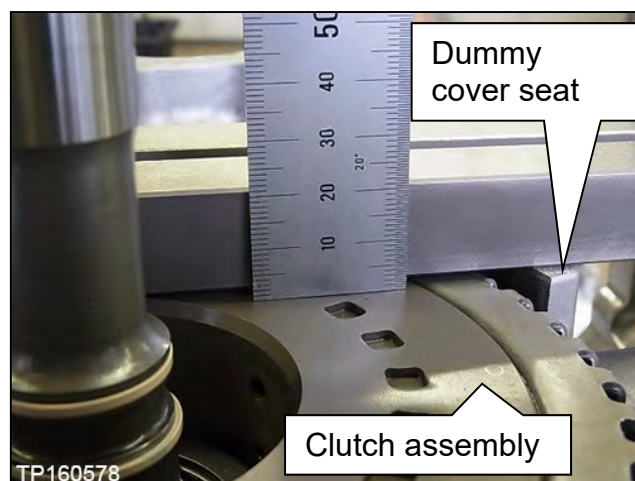

Figure 124
- The clutch assembly should sit 2-3 mm lower than the dummy cover seat (Figure 124).